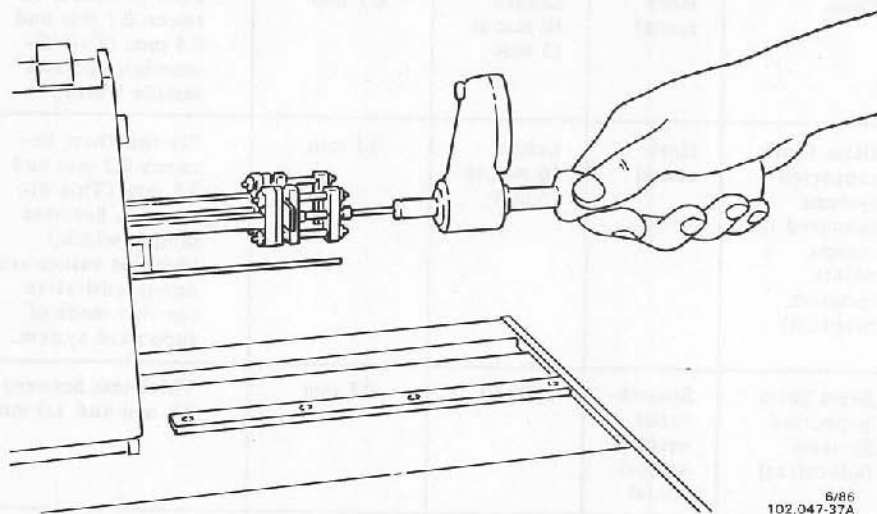

Figure 3.6
11. Use the torque wrench to tighten the clamp locking screws to 1.1 N m (10 in-lb) for standard samples, 0.3 to 0.6 N m (3 to 5 in-lb) for soft samples, or seven turns after the screw touches the spring on the constant tension springs. See Figure 3.6.